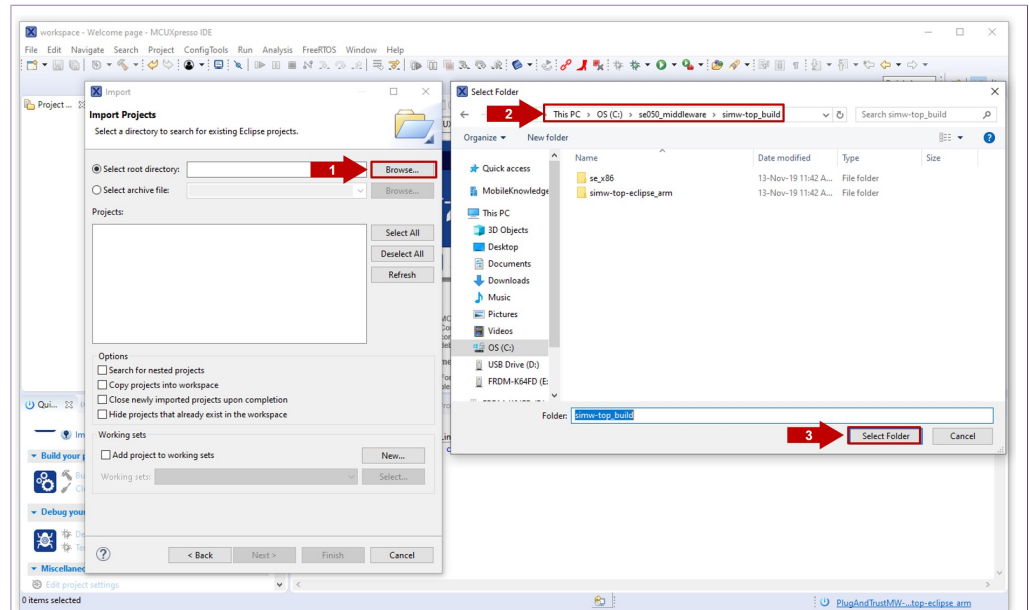

Figure 27. Select EdgeLock SE50 Plug & Trust middleware build folder
- First, we need to import EdgeLock SE050 Plug & Trust middleware project in MCUXpresso. For that, in the **Select root directory** option, browse to **C:\se050_middleware\simw-top_build** or browse the location of your EdgeLock SE050 Plug & Trust middleware directory and click **Select folder** as shown in Figure 27: